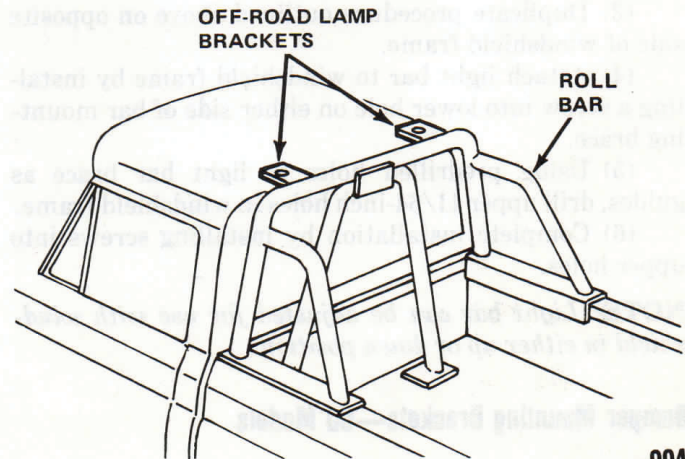

Fig. 11-4 Roll Bar Mounting—Truck Models
Lamps are attached to predrilled brackets located on either side of roll bar (fig. 11-4).
(1) Mount an off-road lamp on each pad on top of bar (fig. 11-4).